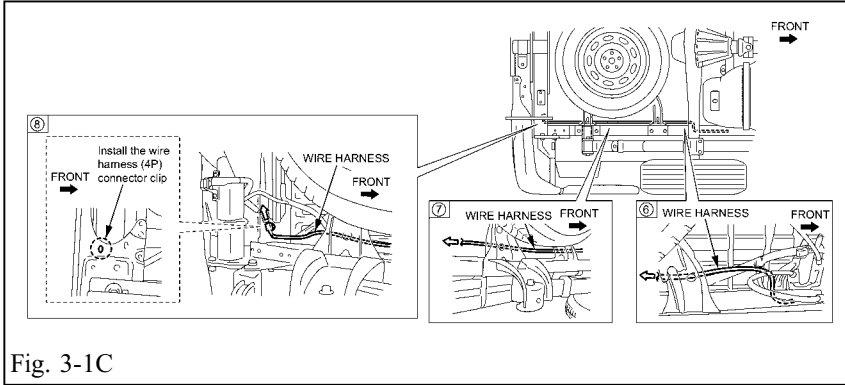

Fig. 3-1C
- (2) Install the wire harness (4P) connector clip to the position illustrated. (Fig. 3-1C)